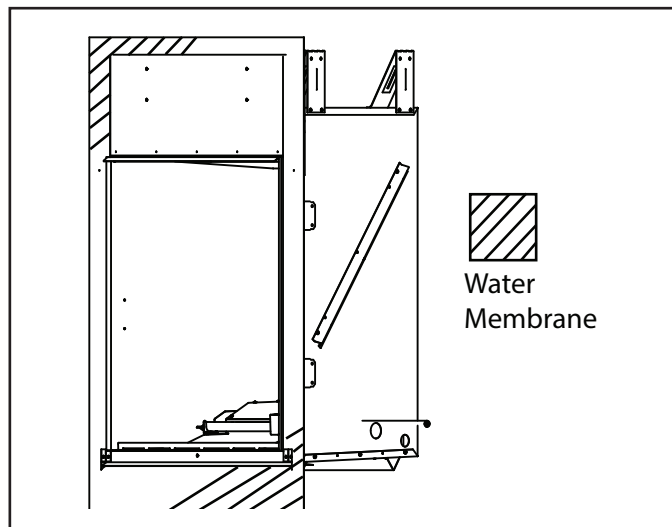

Figure 3.13 Angle View Water Membrane
- See framing measurements in Figure 3.13 and 3.4.
Acceptable method for application of moisture membrane material shown. See Figure 3.13.